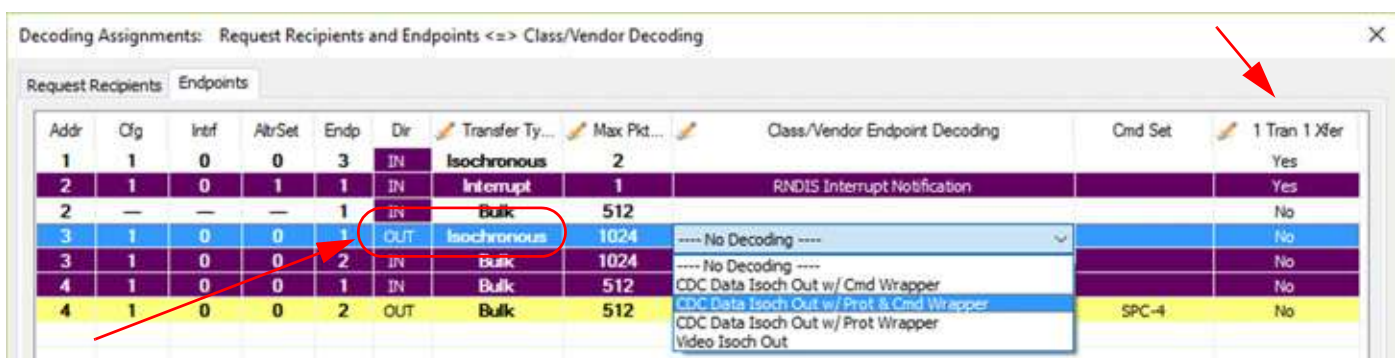

Figure 9.5: Endpoint Decoding Options: IN or OUT Isochronous Transfer Type
8. Display the **Class/Vendor Endpoint Decoding** drop-down menu for Isochronous IN or OUT Transfers (see Figure 9.5):